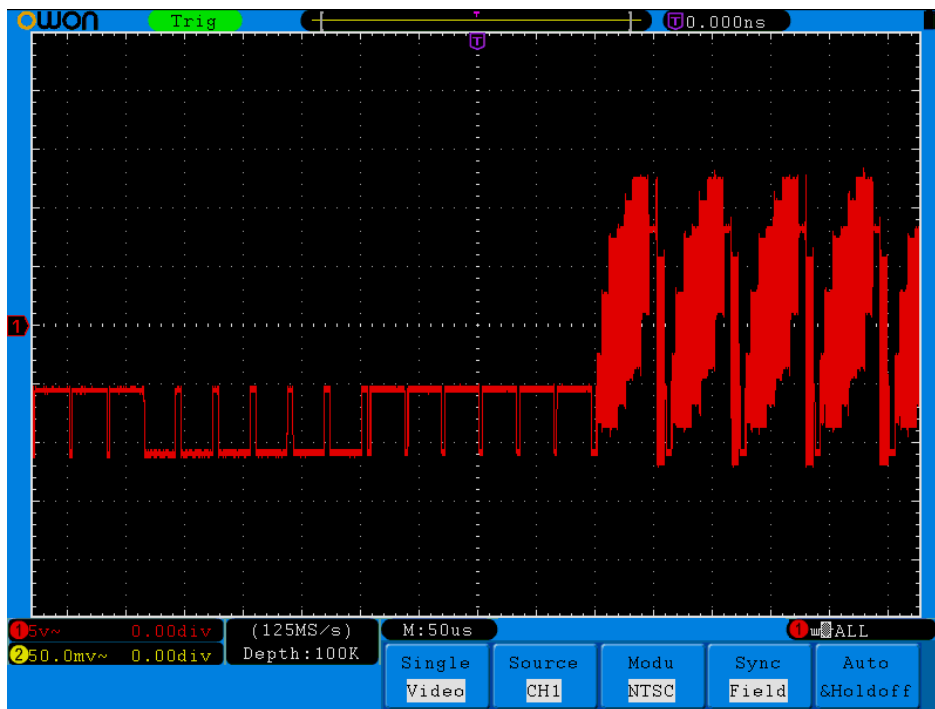

Fig.6-7 Waveform Obtained from Video Field Trigger
- (2) Press the **H1** button to display the trigger type menu.
- (3) Press the **F1** button to choose **Single** for Type.
- (4) Turn the **M** knob to choose **Video** as the mode.
- (5) Press the **H2** button to display the Source menu.
- (6) Press the **F1** button to choose **CH1** for Source.
- (7) Press the **H3** button to display the Modu menu.
- (8) Press the **F1** button to choose **NTSC** for the modulation.
- (9) Press the **H4** button to display the sync menu.
- (10) Press the **F2** button to choose **Field** for Sync.
- (11) Turn the **VOLTS/DIV**, **VERTICAL POSITION** and **SEC/DIV** knobs to obtain a proper waveform display (see Fig.6-7).